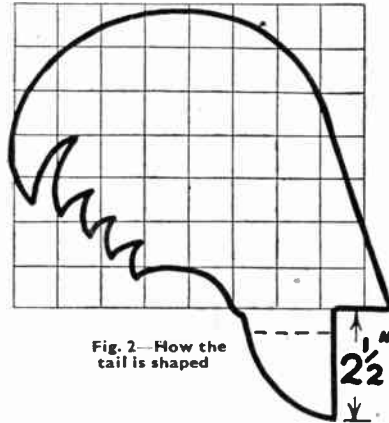

Fig. 2—How the tail is shaped
Pieces (B) and (C), the tail and head, are shown squared in Figs. 2 and 3. The squares shown should be enlarged to 1in. Number the squares from left to right, and from top to bottom, to assist in drawing out the shapes. The back rest (D) will be slightly curved, and will measure approximately $8\frac{1}{2}$ ins. wide by